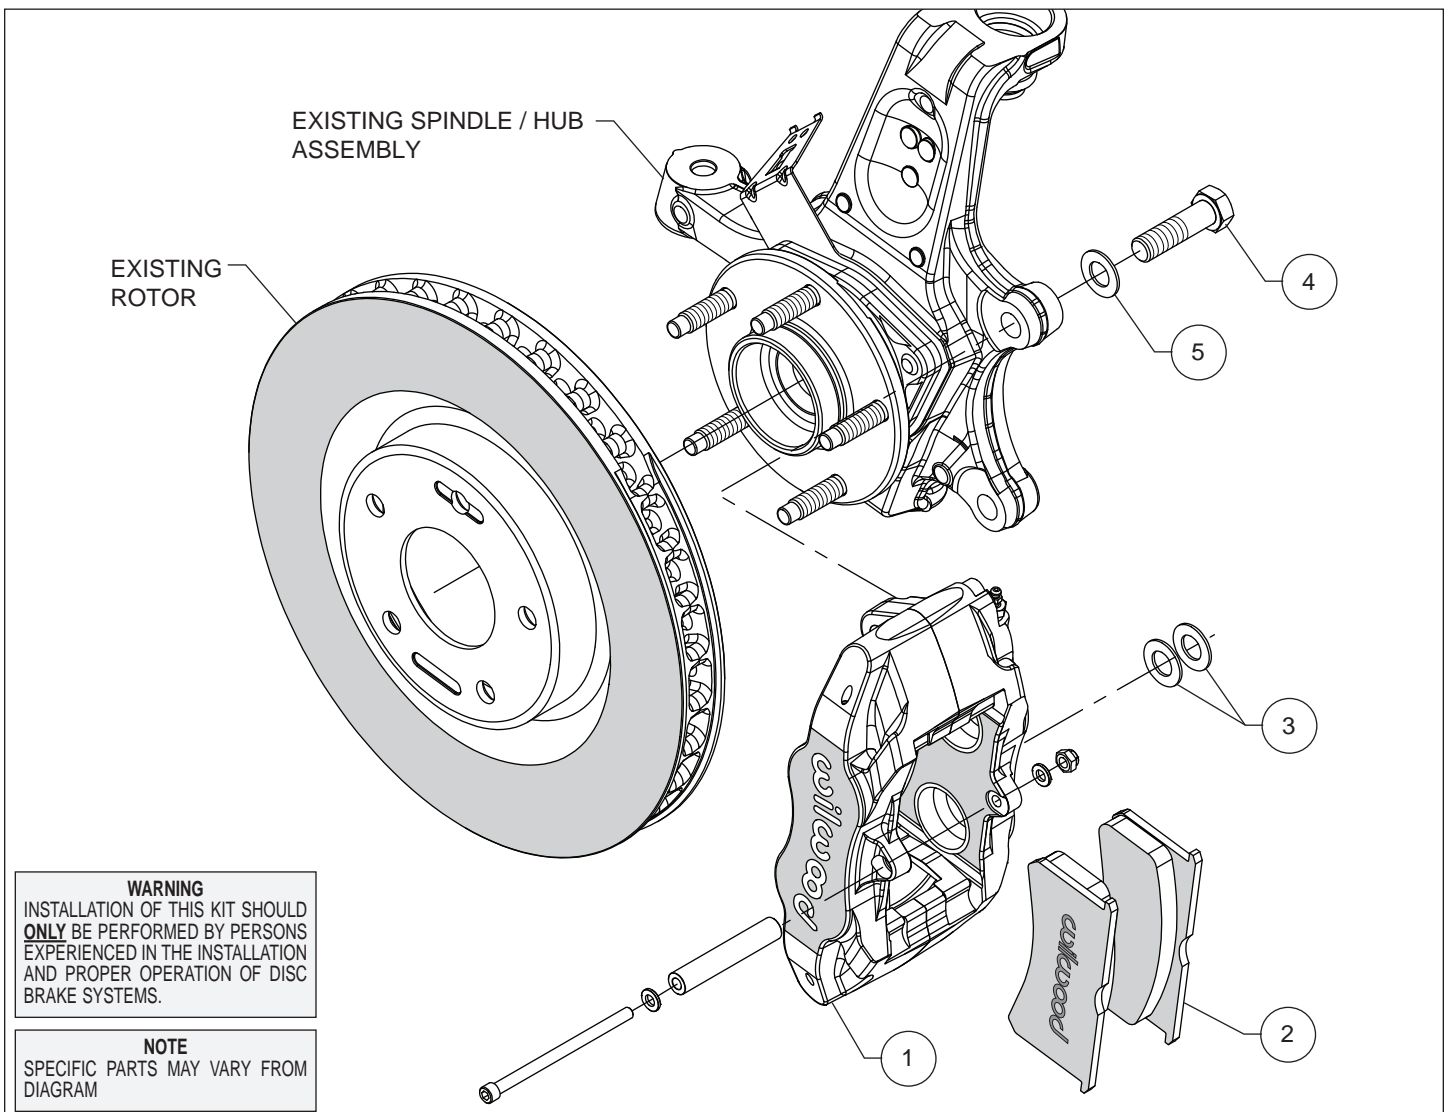

Figure 1. Typical Installation Configuration
**Assembly Instructions** (numbers in parenthesis refer to the parts list and Figure 1 on the preceding page): **CAUTION:** All mounting bolts must fully engage threaded holes.
- Install the Wilwood SLC56 caliper (1) in the exact position as the original caliper, Photo 1. Secure the caliper to the OE mounting tabs using bolts (4), and washers (5). Apply red *Loctite*® 271 on the bolt threads and torque to OEM manufacturer's specifications.
- Remove the caliper center bridge pad retainer bolt, nut, and tube from the caliper. Insert the brake pads (2) into the caliper, with the friction material facing the rotor, Photo 2. Secure the brake pads in place with the center bridge pad retainer tube, bolt, and locknut, Photo 3. The locknut should be snug without play in the bolt or tube. Be cautious not to over tighten.